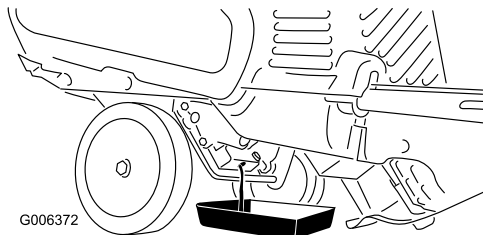

Figure 26
3. Place an oil-drain pan under the oil-drain plug, remove the oil drain plug, and tip the machine backward and drain the used oil in the oil-drain pan (Figure 26).